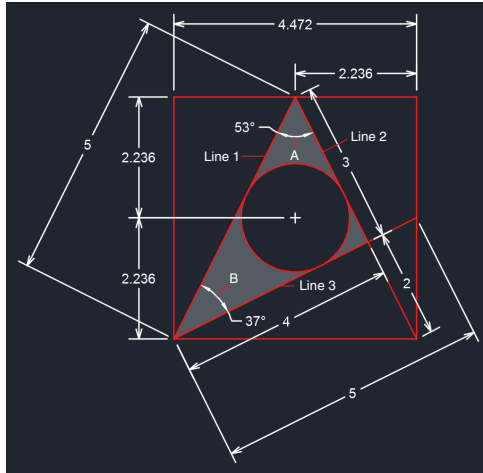

FIGURE 11.17 Adding angular dimensions
9. Click the Dimension tool in the Annotation panel, select lines 1 and 2 shown in Figure 11.17, and then click point A to create an angular dimension object. Select lines 1 and 3 and then click point B to create a second angular dimension.